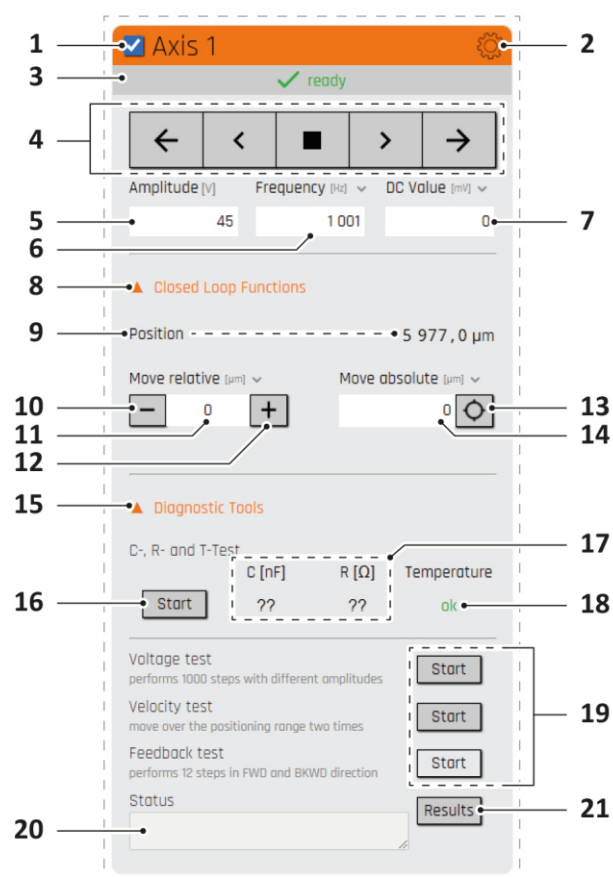

Figure 16 Axis tile, operation view (fully expanded)
**Access** The axis tile's configuration view can be accessed via the operation view's configuration link (Figure 16/2).